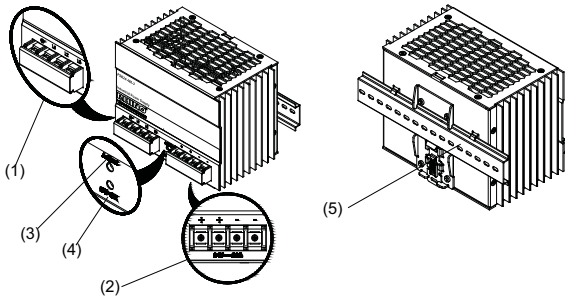
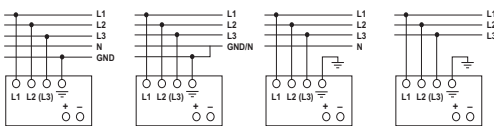

Figure 1
Figure 5
2. Device description (Fig. 1)
5.1. Input connection (Fig. 1, Fig. 5)
Use L1, L2, L3 and GND connections of input terminal connector (see Fig. 5) to establish the 3 x 400-500 VAC connection. Figure 5 shows the connection to the various network types.
5.2. Output connection (Fig. 1 (2))
The green LED DC OK displays correct function of the output (Fig. 1 (4)).